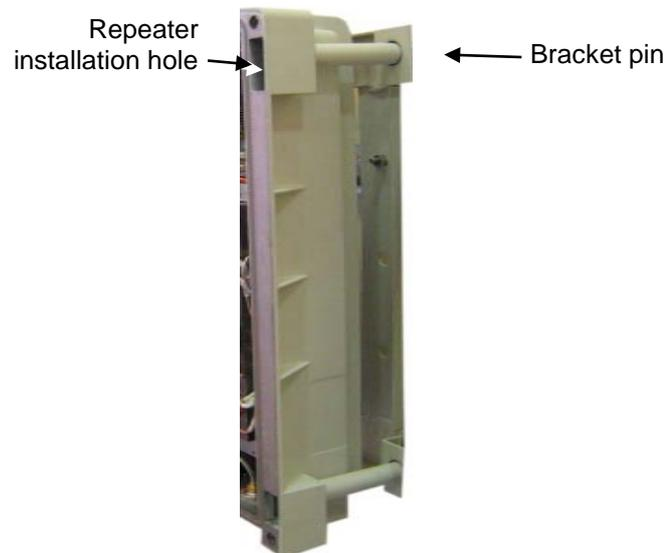

Figure 3-5. BSR 3308 Mounted on Support Bracket
2. Slide the brackets pins through the Repeater holes until the upper side is locked with the installation head nuts at the top of the bracket. See Figure 3-5.